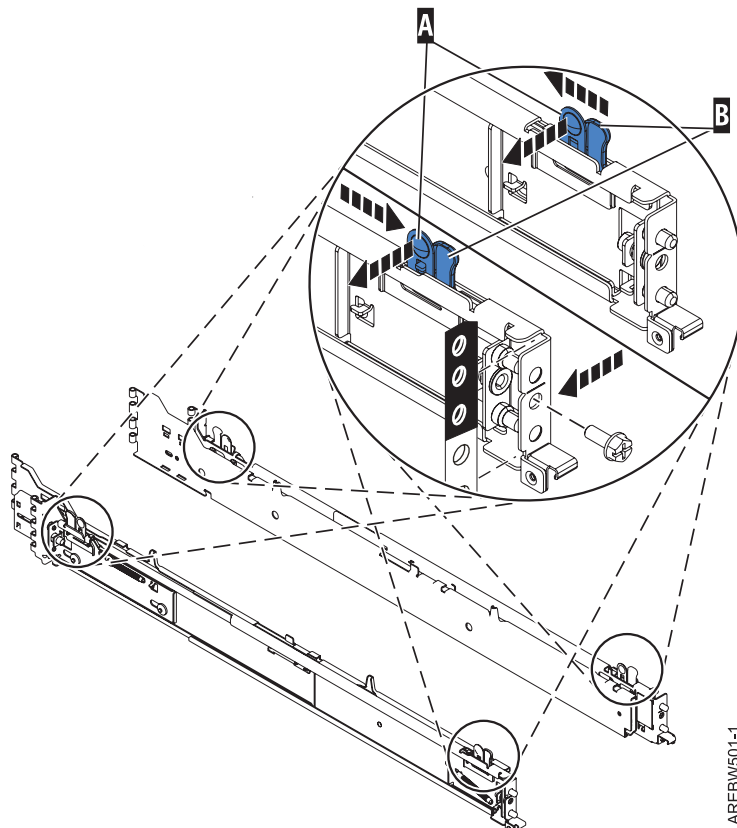

Figure 32. Front slide rail alignment pin, retaining screws, and latch bracket.
1. With the right rail, pull back the latch assembly release tab, **A** in Figure 32, and then slide tab **B** back to the retracted position and lock the latch assembly. The back-alignment pins should be fully retracted.
2. After the alignment pins are retracted, insert the right side rail's front-alignment pin as shown in Figure 32, into the rack front flange hole identified by the self-adhesive placement dot that you previously installed. Have a second person hold the rail securely in the front hole.